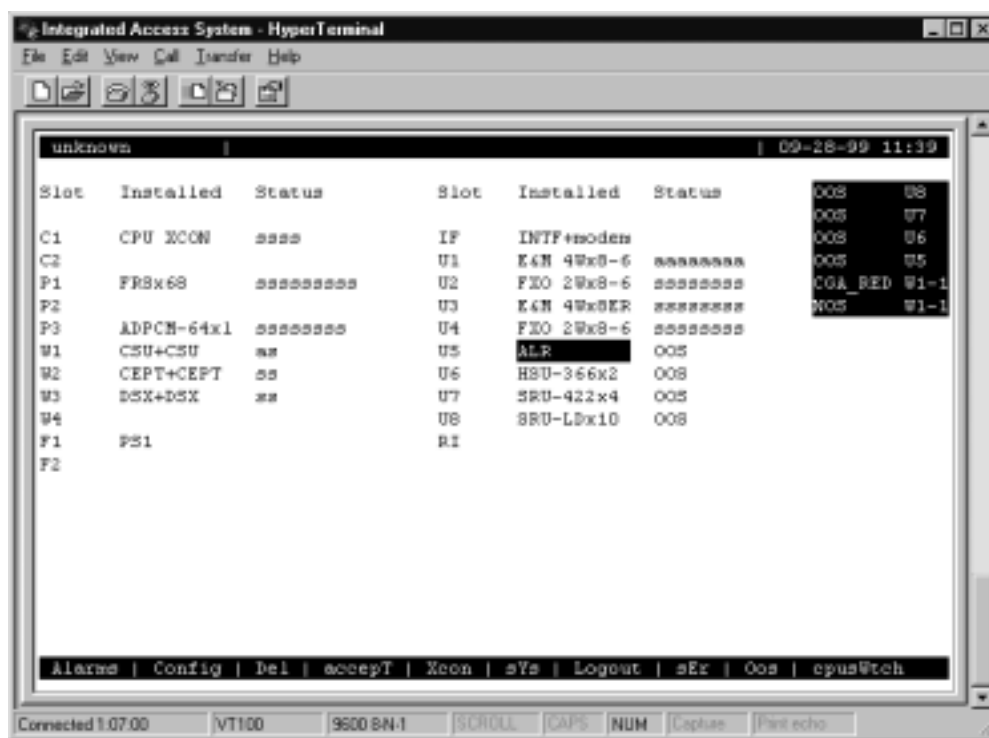

Figure 5-42. Typical System Main Screen with Alarms
6. The system automatically builds the necessary time slot structure. Since the user slots are vacant, the system will register Out Of Service (OOS) alarms for each of the four cards, as shown in Figure 5-42.